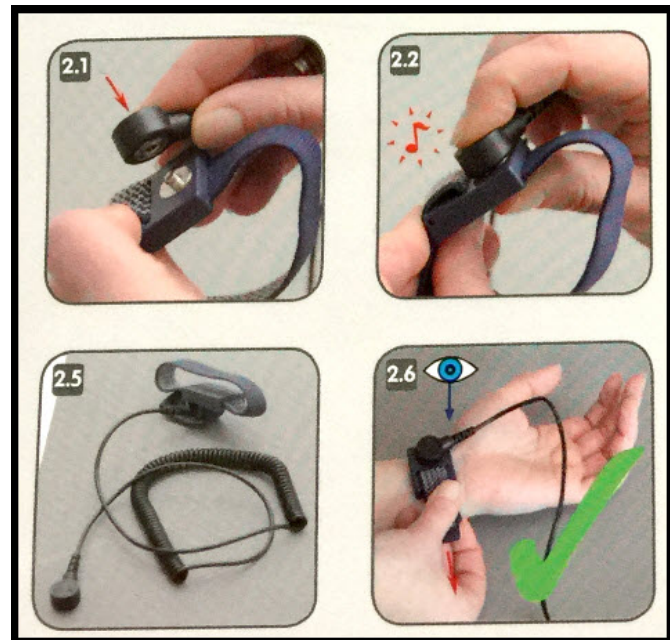

Figure 3. VAS6613 ESD work surface grounding wrist strap.
- Ground yourself by placing the elastic strap around your wrist. Make sure it is securely touching your skin. It cannot be loose-fitting or over your shirt cuff (Figure 3).